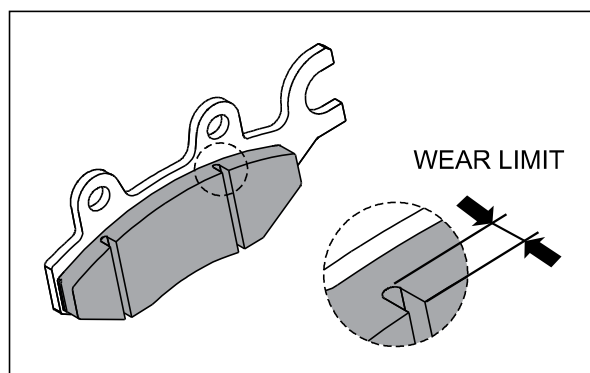

Fig. 6.18
- Observe the wear limit line marked on the pad and check the wear condition of brake pads. (Fig. 6.18) When the wear exceeds the limit line, replace the pads with new ones.